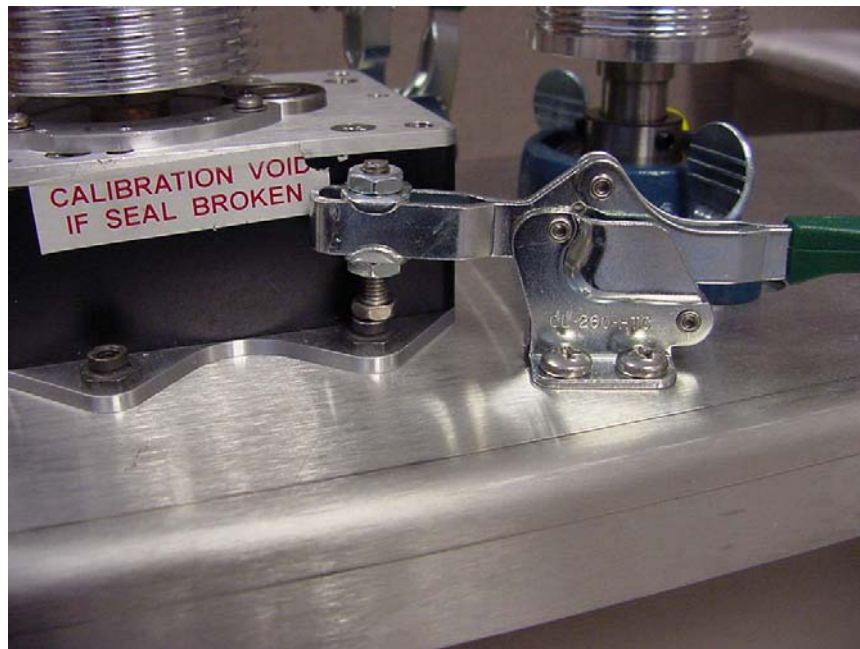

Figure 3-5. Clamp Adjustment
- 3) Engage all necessary clamps to hold unit in place. Some units will use only 2 of the fixture clamps. Adjust clamp height and position to make sure that the unit is secure when clamps are fully engaged. See Figure 3-5.